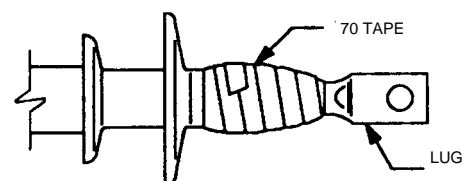

Figure 7
2. Wrap 4 half-lapped layers of Scotch™ 70 Silicone Rubber Tape over the lug and onto the insulator for 1" (25 mm) (**Figure 7**). TAPING HINT: Apply first 3 layers with moderate tension. Apply last lap with zero or very little tension.